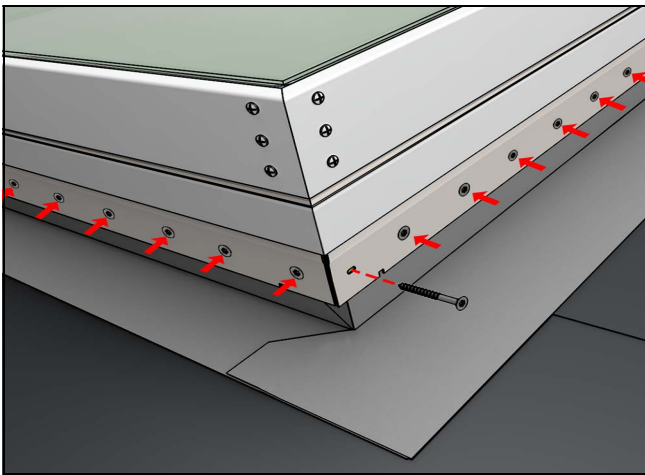

Figure 43
**13.** Center the unit on top of the curb and secure with appropriate fasteners, 1-1/2" roofing nails or a minimum #8 x 1-1/2" pan head stainless steel screws (exterior grade 1-1/2" screws). *Note: Apply downward pressure to the top of the skylight frame while securing the screws. Do not over tighten the screws. See Figure 43.*